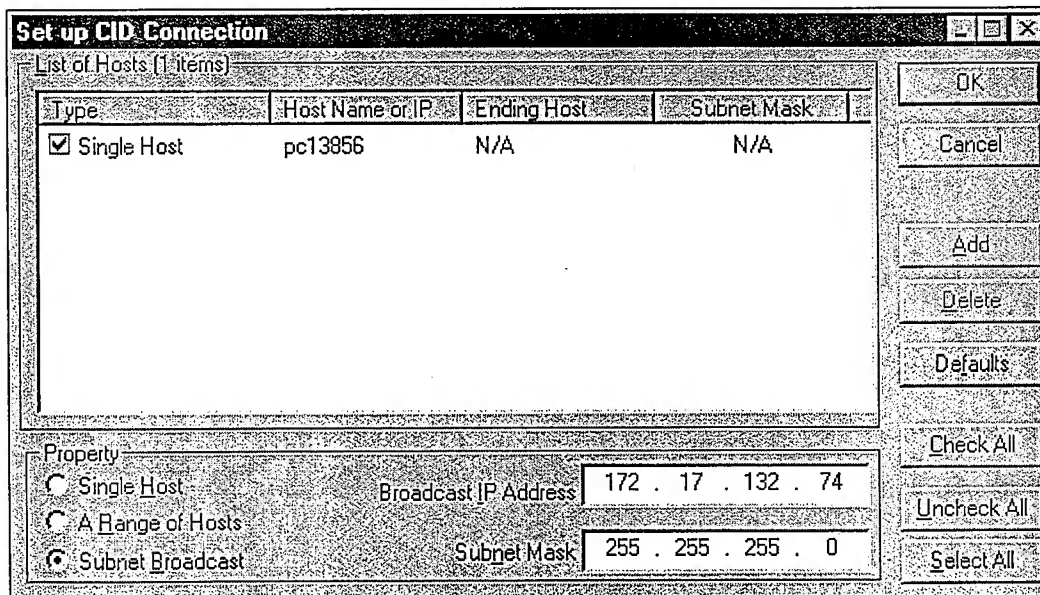

Figure 3. Set Up CID Connection Dialog
2. The Set Up CID Connection dialog window appears (see Figure 3). SpectraPRO will attempt to discover the available hosts (BCGs or NIUs).